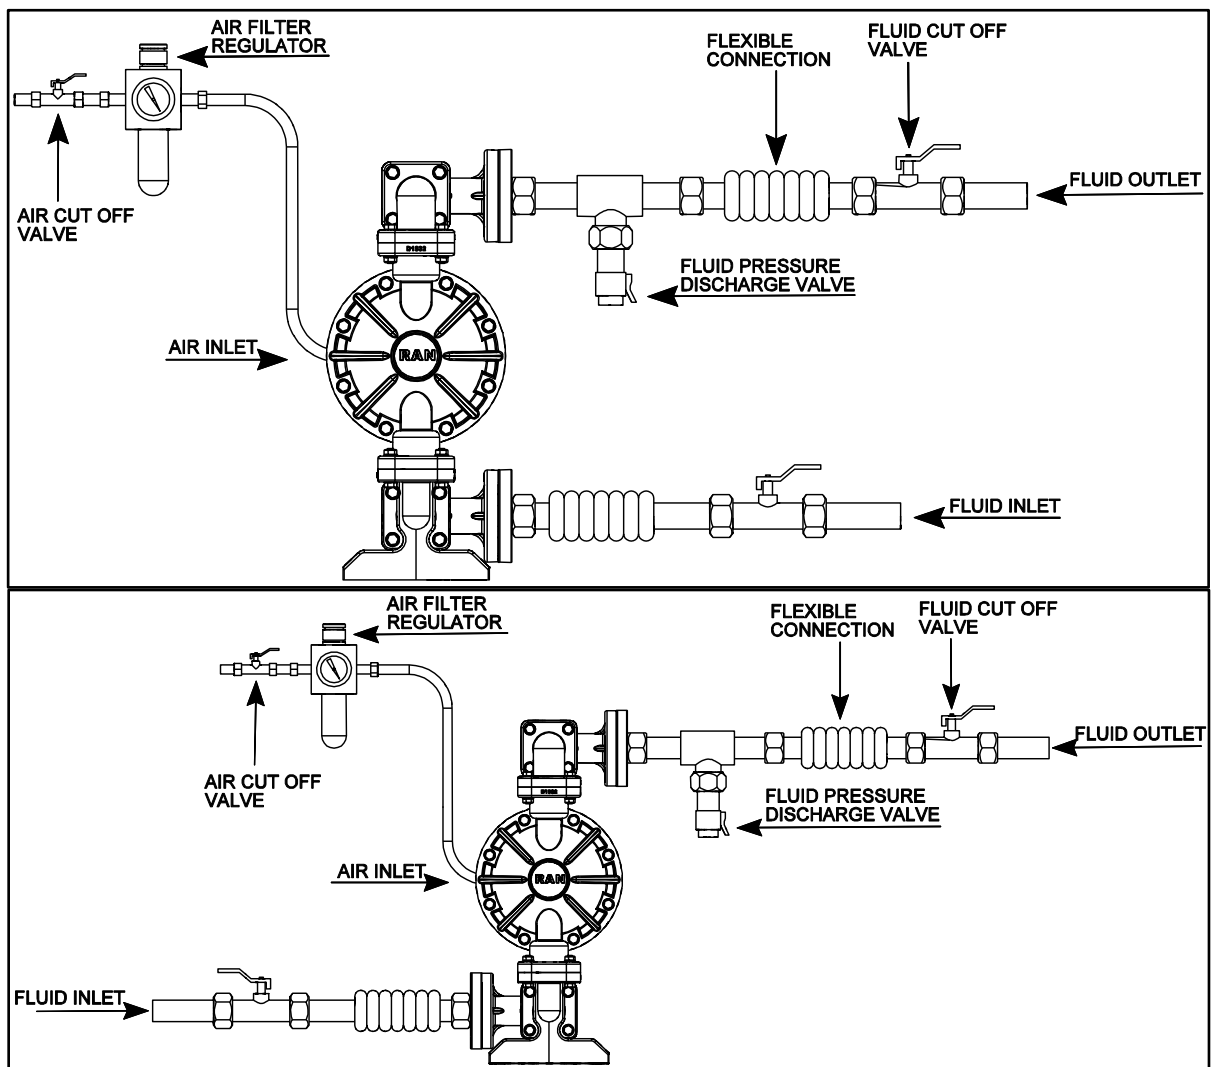

Figure 8a - Typical installation scheme
- 1- Refer to the Figure 8a for the connection scheme. Fix these accessories to the wall or to a bracket. The air line feeding the accessories must be grounded.